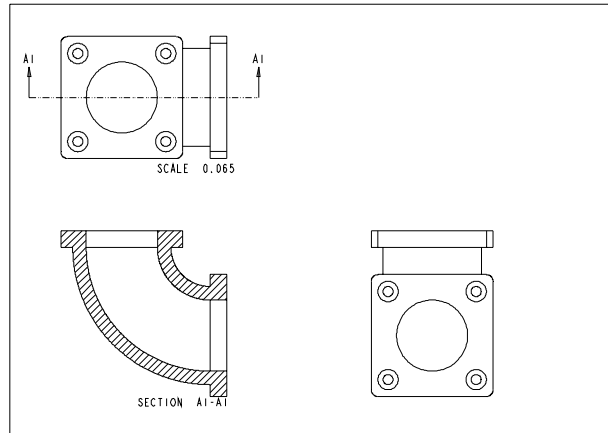

Figure 11-51 The drawing sheet after generating the top, sectioned front, and right-side views
- d. Generate the right-side view of the sectioned front view, refer to Figure 11-51.
- Specify the center point for the placement of the drawing view on the right side of the sectioned front view. The right-side view of the model is placed, as shown in Figure 11-51.